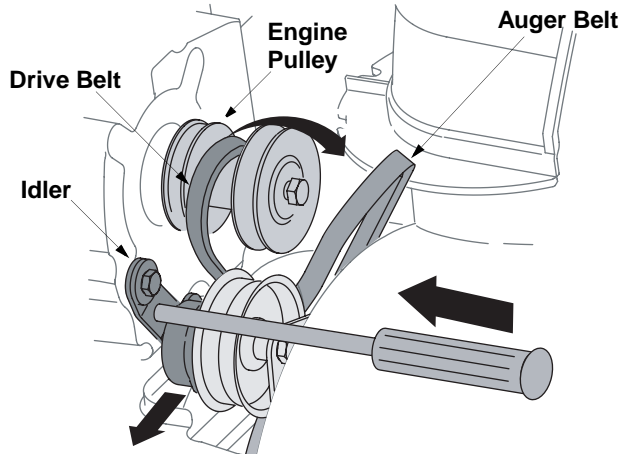

Figure 26
- Push idler away from the chute and insert a Philips head screwdriver in the hole on the idler as shown in Figure 26. This will release tension on drive belt.
- Pull drive belt out and away from the engine pulley to remove. See Figure 26.